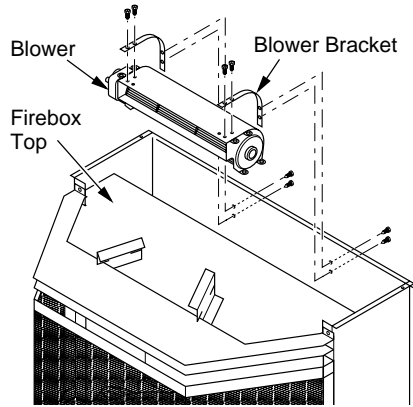

Figure 16 - Removing Blower Brackets from Stove and Attaching to Blower
- Remove the two blower mounting brackets from the rear panel by removing two screws each (see Figure 16, page 13).
- Attach the two mounting brackets to blower housing using four screws provided in blower kit (2 for each bracket) (see Figure 16, page 13). Tighten screws securely. Place blower assembly temporarily on top of firebox.
12. Using the four screws previously removed, mount blower assembly to stove by reattaching blower brackets to rear panel (see Figure 16). Tighten screws securely.